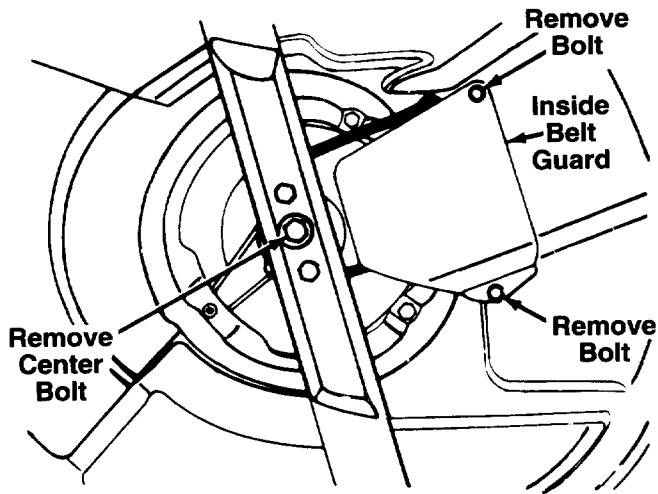

FIGURE 19.
6. Remove the inside belt guard by removing two self-tapping screws. A 3/8" wrench is required. See figure 19.